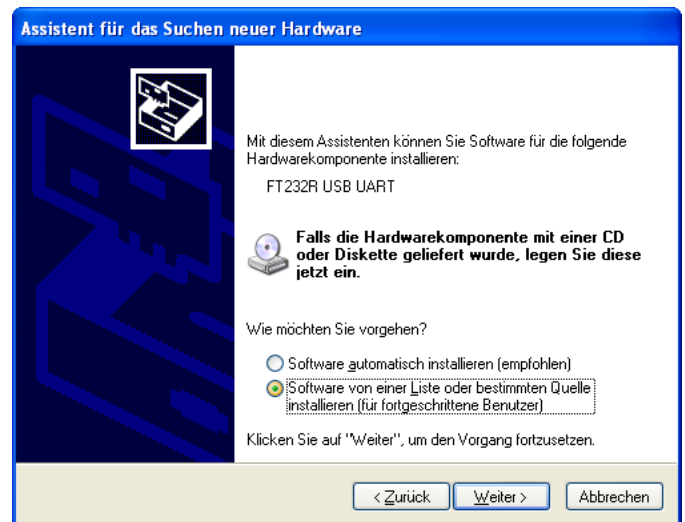

Figure 10.2
- Select "Install from a list or specific location (advanced)", as shown below in figure 10.2, and then click the "Next" button.